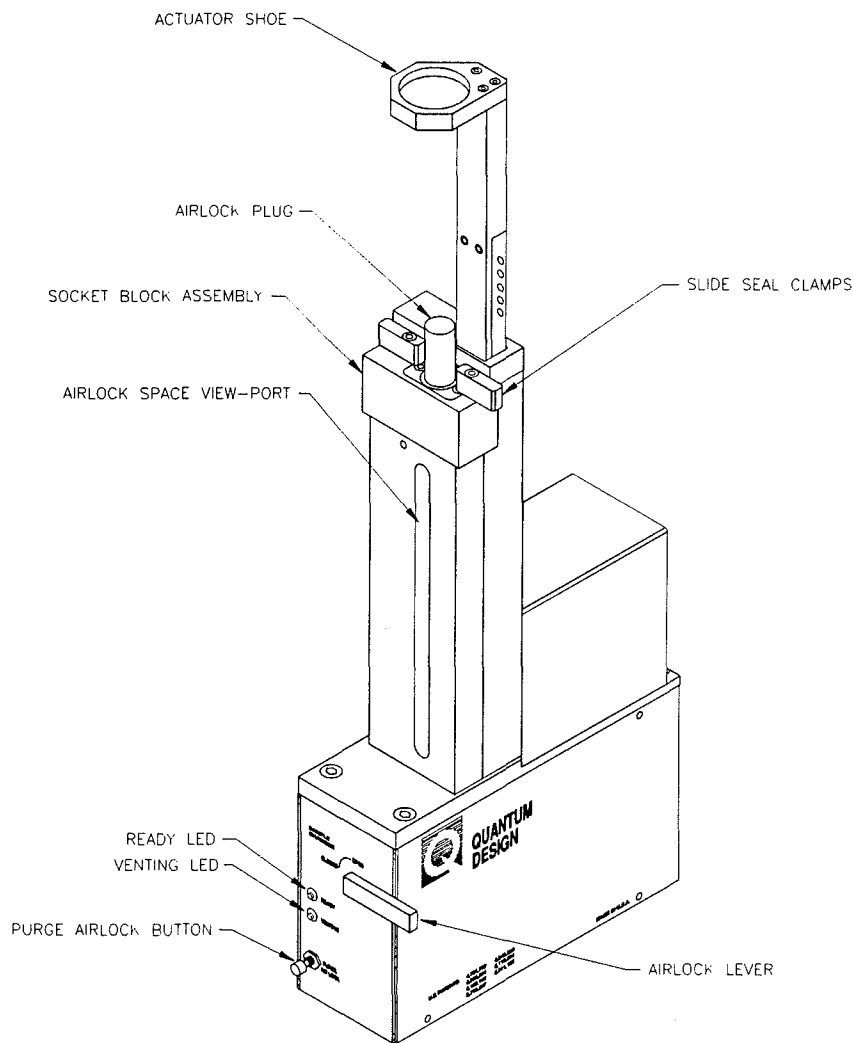

Figure 3-2. Sample Transport and Electronic Control Assembly
1. Turn the airlock lever on the electronic control assembly counterclockwise so that it is horizontal and in the “Closed” position (see figure 3-2). The MPMS vents the airlock space, which is the portion of the sample chamber located above the airlock valve.
2. Wait for the MPMS to vent the airlock space. The yellow “Venting” LED (figure 3-2) flashes on and off while the system vents the space and remains off when the space is vented. The green “Ready” LED does *not* turn on.
3. Push the two slide seal clamps on the socket block assembly (see figures 3-2 and 3-3) so that the handles of the clamps face the front of the MPMS. When the clamp handles face the front of the MPMS, the airlock plug is unlocked and may be removed from the opening of the airlock space.
11. Press the "Purge Airlock" button on the electronic control assembly (see figure 3-2). The MPMS purges the airlock space and cycles through the purge sequence four times. The yellow "Venting" LED turns on during the purge.
14. Lower the sample rod gently and slowly until the black slide clamp on the rod engages the actuator shoe on top of the sample transport. Figure 3-2 illustrates the actuator shoe. When the slide clamp engages the actuator shoe, the rod is fully inserted into the sample chamber.